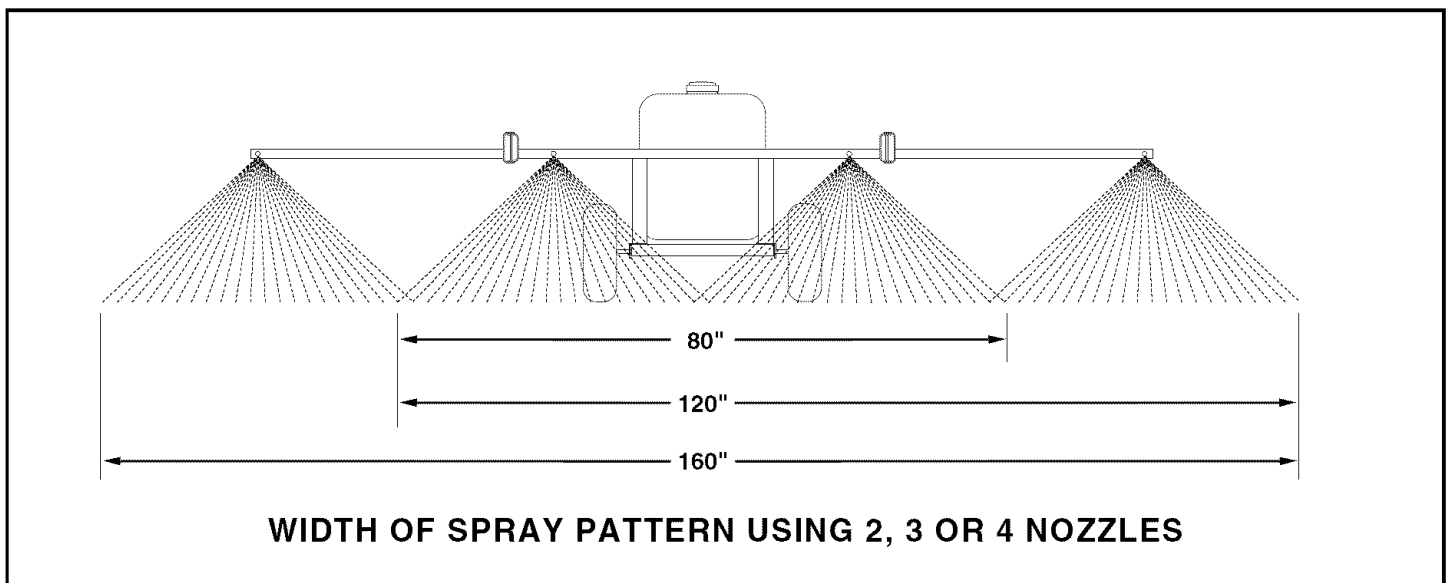

FIGURE 19
3. Decide how wide a swath you wish to spray with each pass. Use just the two inside nozzles, or the two inside nozzles plus one outside nozzle, or use all four nozzles. The number of square feet covered with each pass will vary depending on the number of nozzles used, but the amount of solution applied per square foot will not vary as long as the same system pressure and speed of travel are used. Refer to figure 19.